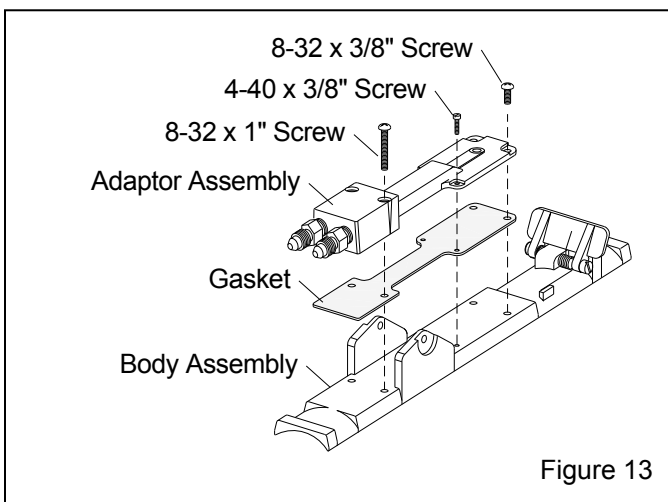

Figure 13
**4.6.2 Gasket replacement – Figure 13**